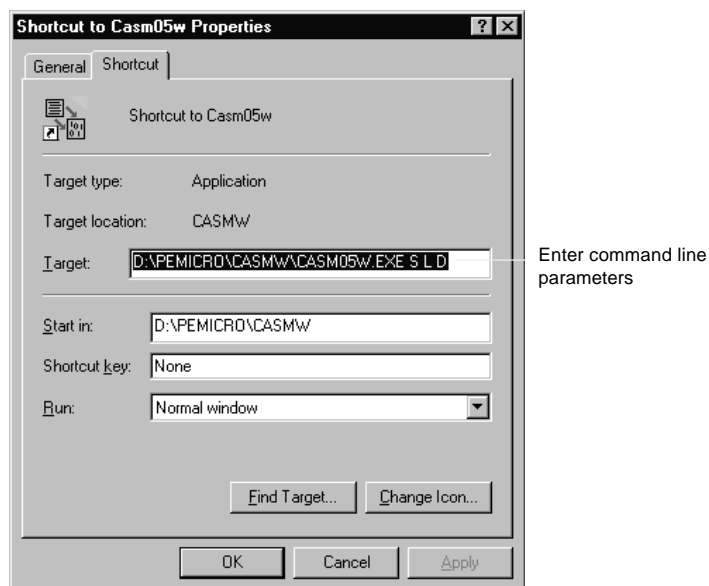

Figure 5-2. Windows 95 Program Item Property Sheet (Shortcut Property for CASM05W.EXE)
- Modify the command line in the *Program Item* properties sheet in Windows 3.x, or in the *Shortcut* tab of the Properties window in Windows 95 (Figure 5-2).
1. If the program is not running, right-click its icon on the Windows desktop, or its shortcut entry in a folder or Windows Explorer window to open the *Shortcut Properties* sheet (Figure 5-2).